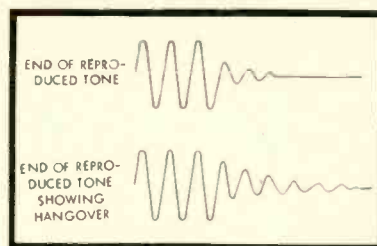

Fig. 2-4. Poor transient response.
Consider, for example, the tone represented in (A) of Fig. 2-4. Perfect reproduction would produce an identical wave form, differing perhaps only in amplitude, while poor transient response would be indicated by the hangover that is apparent in (B). The continuation of the reproduced signal after the original has ended may be compared to a color smear on a reproduced painting. The new musical tones which follow may also be inharmonic to the hangover tone, and an effect similar to intermodulation will be created.